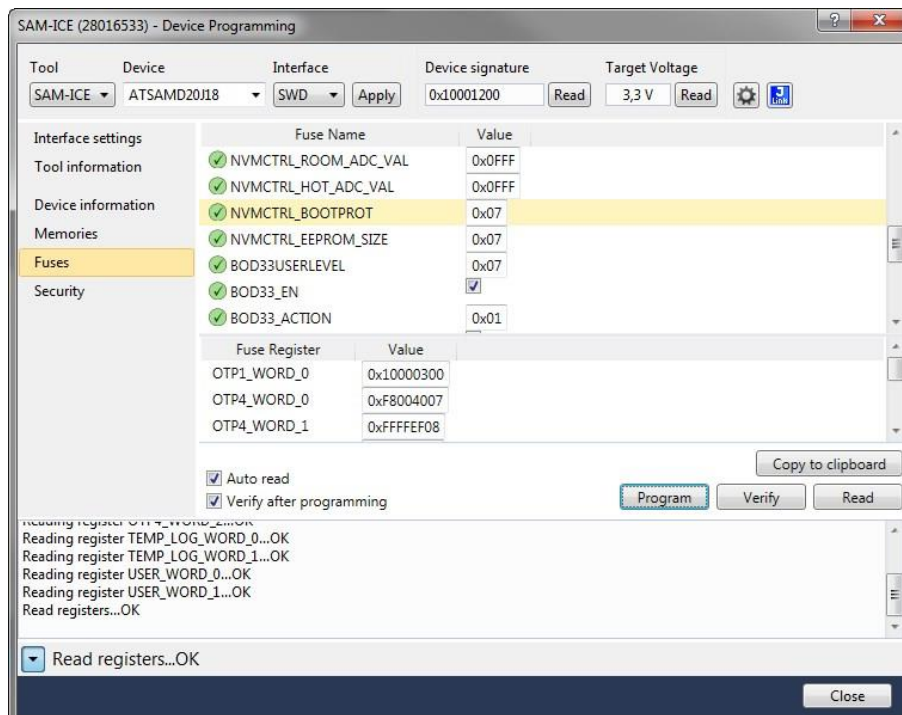

Figure 10 - Atmel Studio, Device Programming, Fuses
- Go to *Fuses*, under *fuse name* find “NVMCTRL_BOOTPROT”, set its value to “0x07” and click *Program*. It should be done with no errors messages. (Figure 10)